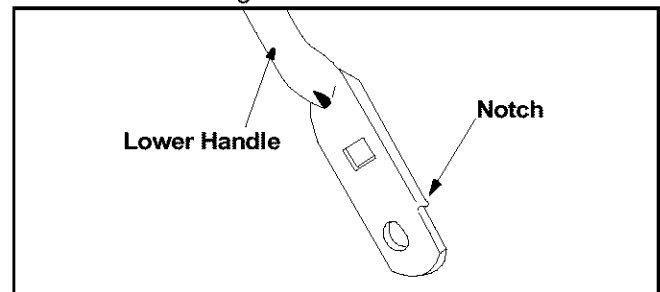

Figure 11
- Turn lower handle around so the notch on the bottom of the lower handle is facing forward. Reassemble, placing the bottom holes in the handle over the weld pins in the handle mounting bracket. See Figure 11.